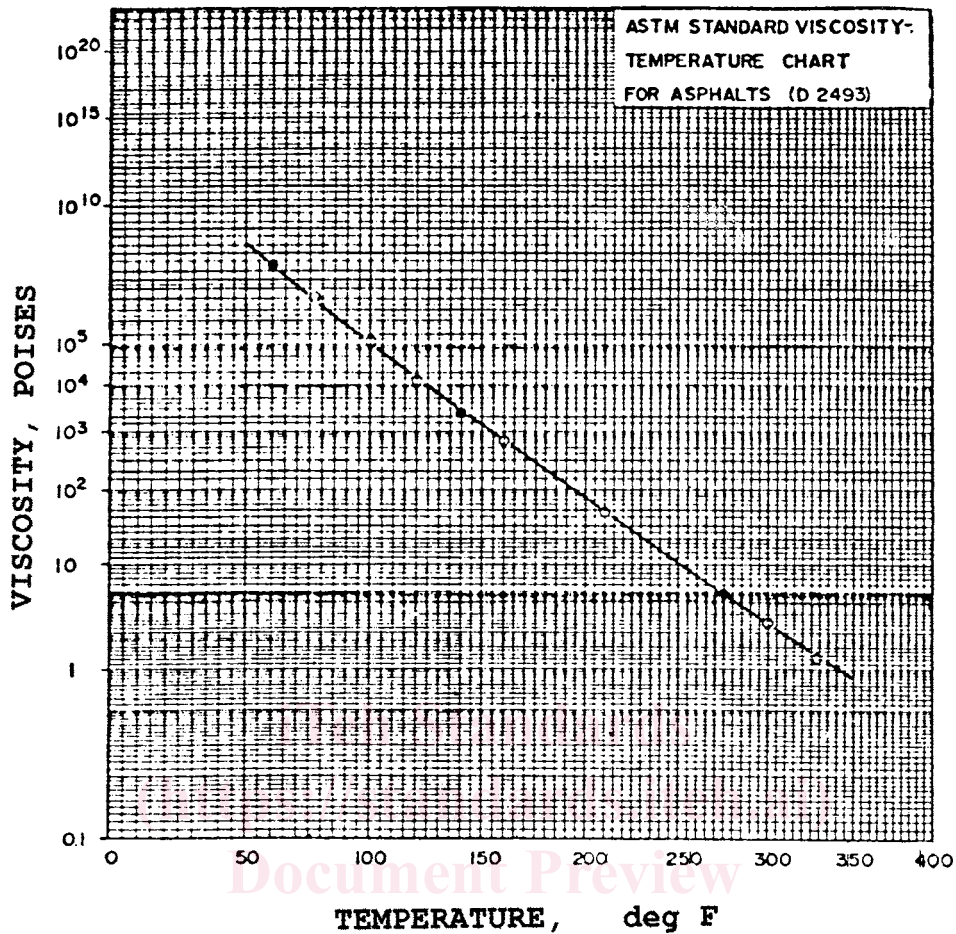

FIG. 1 Facsimile of Viscosity-Temperature Chart on Which a Typical Experimental Curve Has Been Plotted
4.1 For Fig. 1, the chart coordinates are logarithm of the logarithm of the viscosity in centipoise as the ordinate, and logarithm of the absolute temperature in Degrees Rankine (degrees F + 459.7) as the abscissa. However, the viscosity in poise and the temperature in degrees Fahrenheit is shown in the chart for convenience.⁴
4.1.1 The range of the chart is 10^{-1} to 10^{24} poise and 0 to 400°F, as shown in Fig. 1. Its size is 16 by 17 in. (406 by 432 mm).
5.2 Some asphalts have viscosity-temperature relationships too complex to be represented by only three points, as shown in Fig. 1. In this case determine the viscosity at sufficient temperatures to produce a curve adequate for the purpose intended.